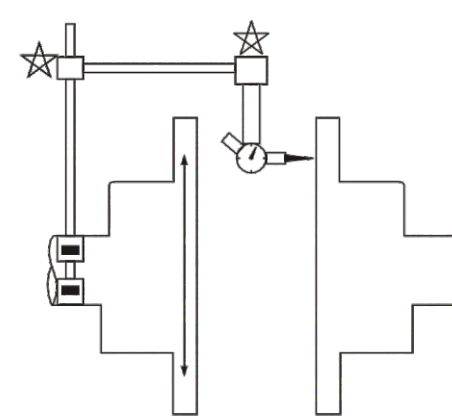

Fig. 1
2. Angular misalignment(Fig. 1)